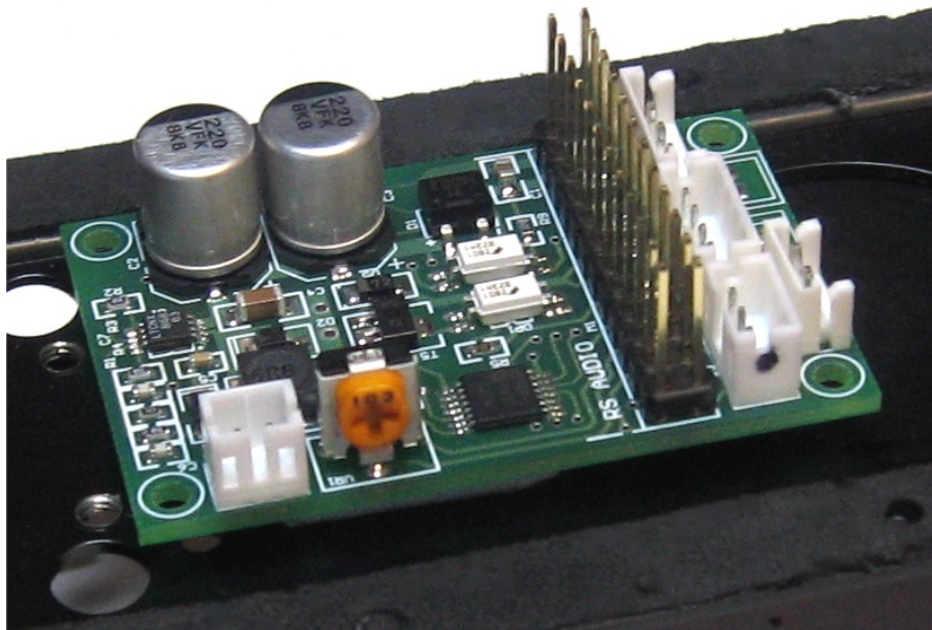

Figure 2 – Circuit board mounted
2. After test fitting the Railsounds Commander & Railsounds Audio Board together, carefully unplug the Railsounds Audio Board and set it aside before permanently mounting the Railsounds Commander circuit board. Refer to Figure 2 and, when ready, use two layers of double stick tape 1 ½ inches by 1 inch to mount the Railsounds Commander circuit board.